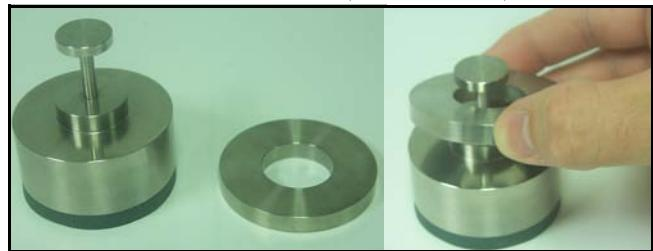

FIGURE 5-31 Additional mass being placed on AEC100 weight
Step 6 Assemble the additional mass ring over the handle of the AEC100 mass (FIGURE 5-31)